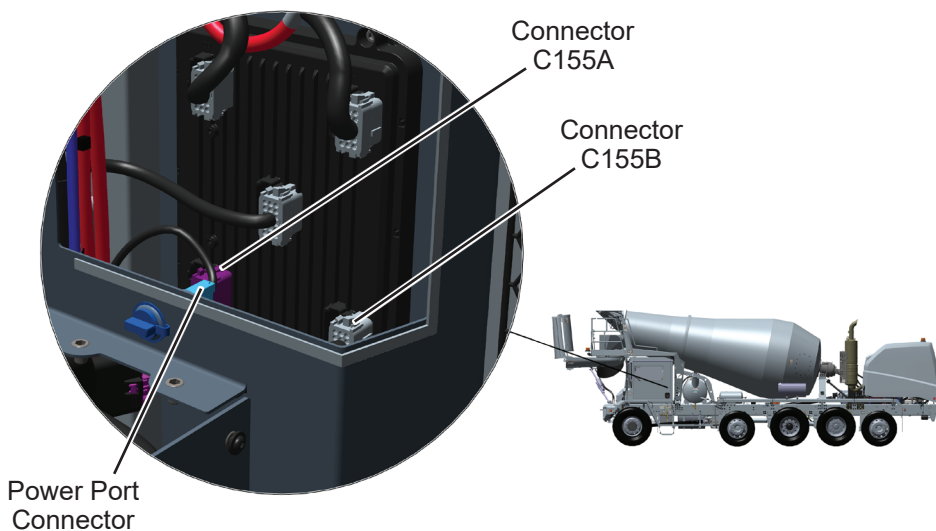

Figure 12
21. Disconnect cab harness connectors C155A and C155B from FCM. See Figure 12.